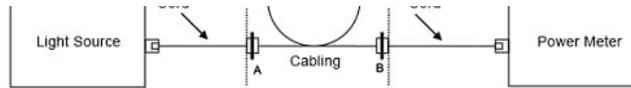

Figure 11. Measure attenuation
- b. Measure the attenuation of the cabling and compare to the reference (see Figure 11).